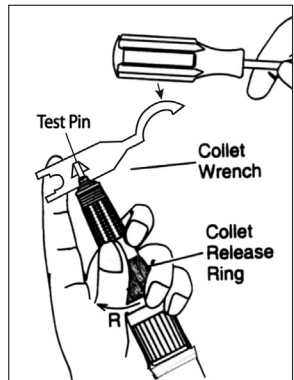

Fig. 4
2. Place the triangular cutout of the Collet Wrench over the Collet (Fig. 4)